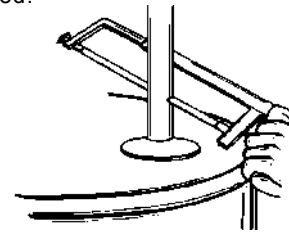

FIGURE 3.
- ⑤ a. If you have copper piping to the water heater, the two copper water pipes can be cut with a hacksaw approximately 4" away from where they connect to the water heater. See Figure 3. This will avoid cutting off the pipes too short. Additional cuts can be made later if necessary. Disconnect the temperature-pressure relief valve drain line. When the water heater is drained, disconnect the hose from the drain valve. Close the drain valve. The water heater is now completely disconnected and ready to be removed.